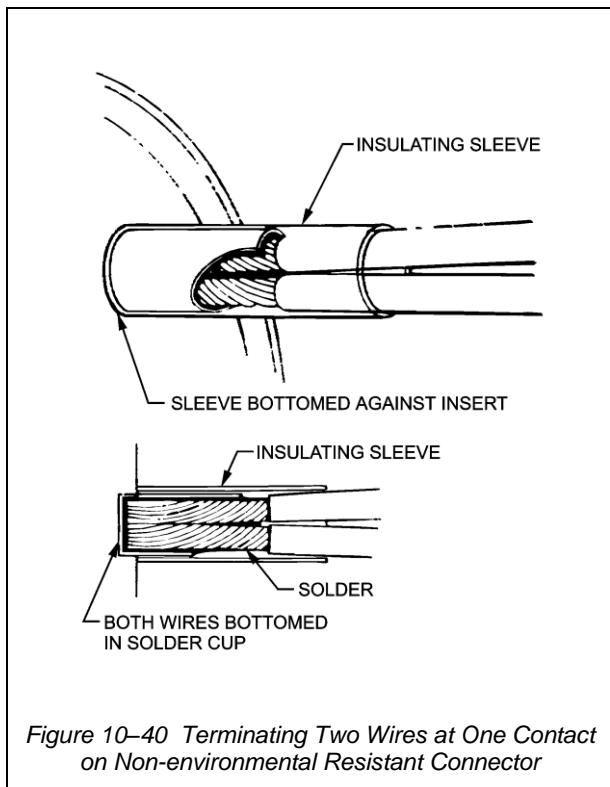

Figure 10-40 Terminating Two Wires at One Contact on Non-environmental Resistant Connector
- d. Crimp single wire, doubled if necessary; into other end of permanent splice (see Figure 10-40).
- a. If both wires can be fitted into contact solder cup, proceed as with single wire. Slide insulating sleeve over both wires together and insert them into solder cup. Make sure all strands are inside cup before soldering. When solder has cooled, push insulating sleeve down until it butts against insert. (See Figure 10-40).